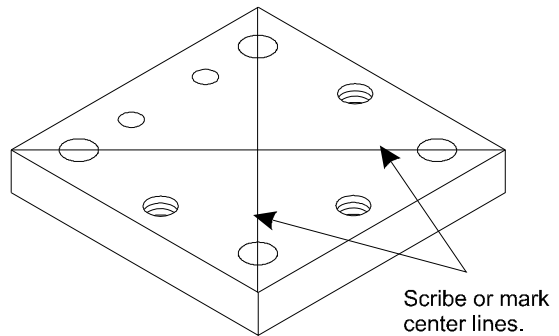

FIG. 6: MARKING TOP PLATE FOR INSTALLATION
- Step 2. We recommend scribing or marking a centerline on the top plate. (See Fig. 6)
- Step 3. You should have scribed or marked a centerline on the top surface of the top plate to locate the center. (See Fig. 6)